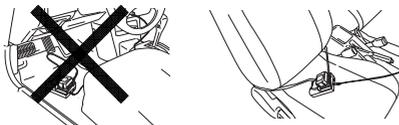

Fig. 12
- Secure the battery charger in place in the car. Use the strap supplied with the battery charger to fasten the battery charger in place and prevent it from moving inadvertently. (See Fig. 12)